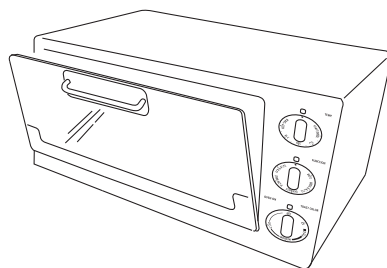

fig. 1
- Place the food to be grilled on the wire rack (G) and place them together in the guide 1.
- Close the door until you hear a “click” (see figure 1).
- Turn the function selector knob (D) to the  position.
- Rotate the timer knob (B) in a clockwise direction.
- After cooking, manually turn the Timer knob (B) back to “0” position.
- Turn the thermostat knob (A) to position .
- Turn the function knob (D) to position .